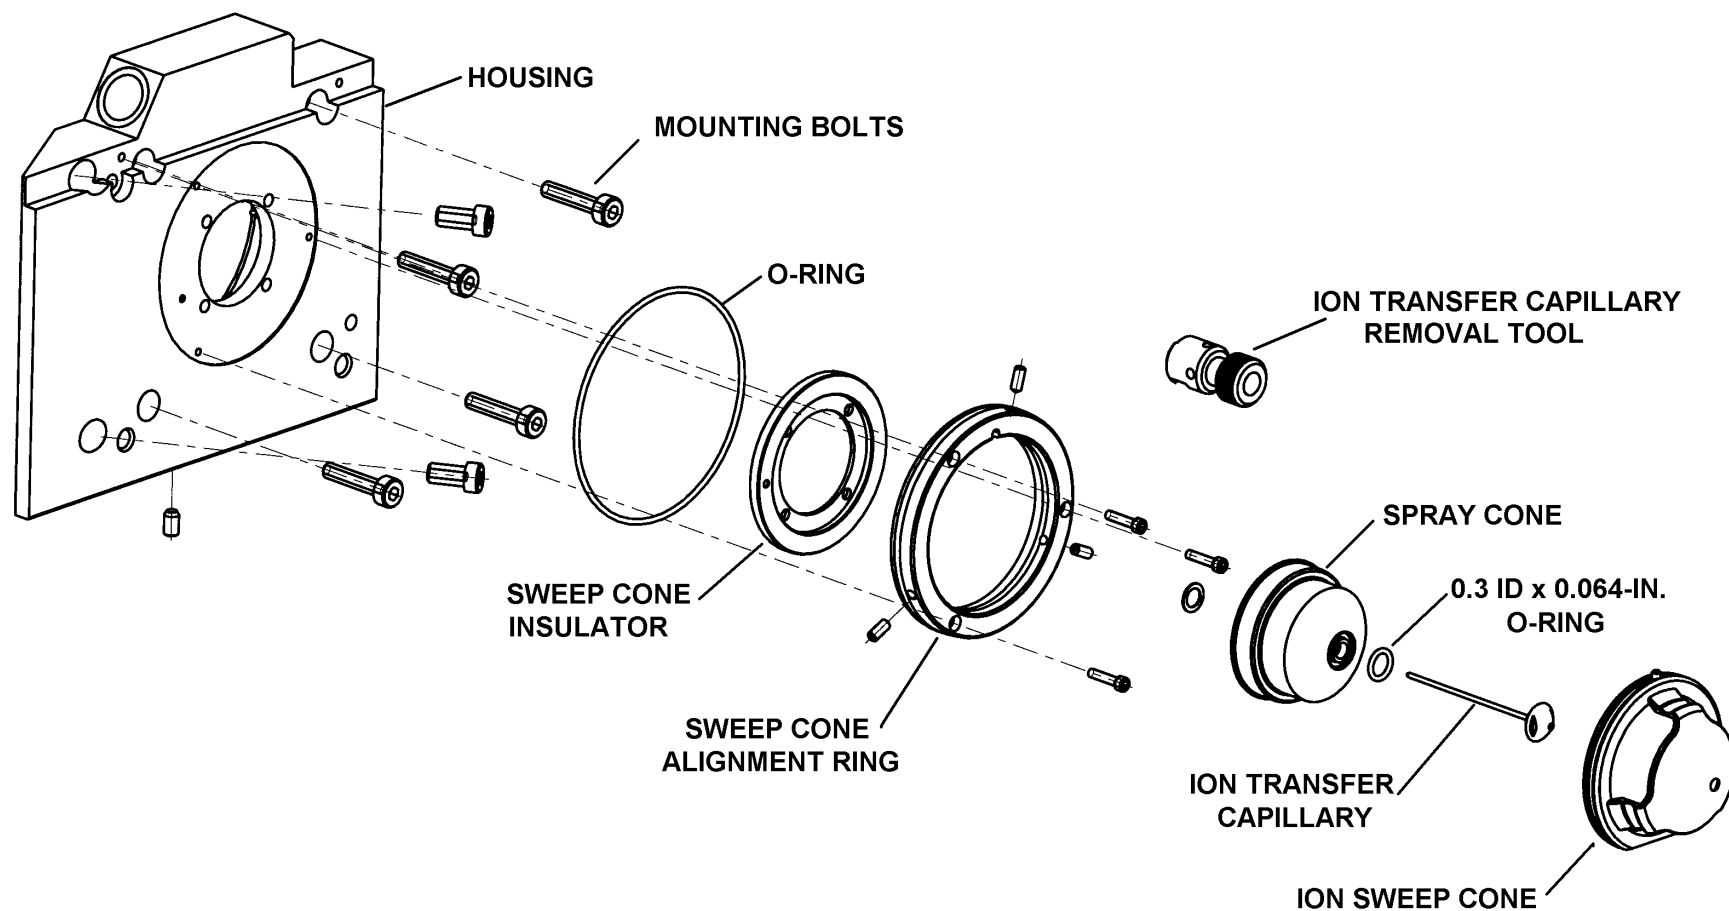
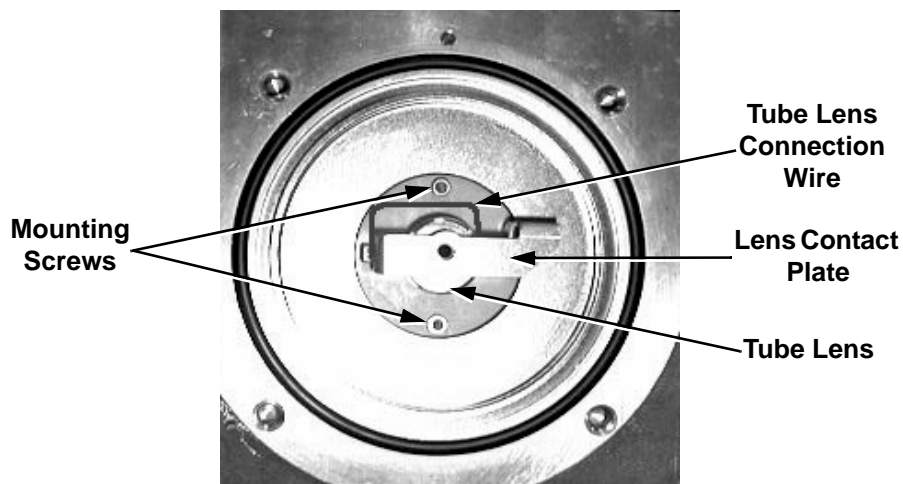
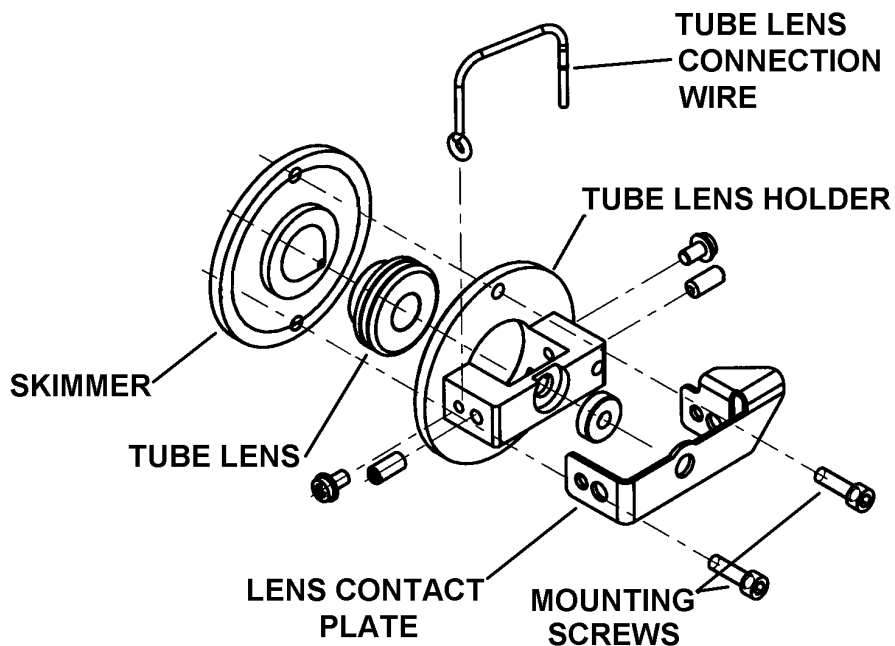
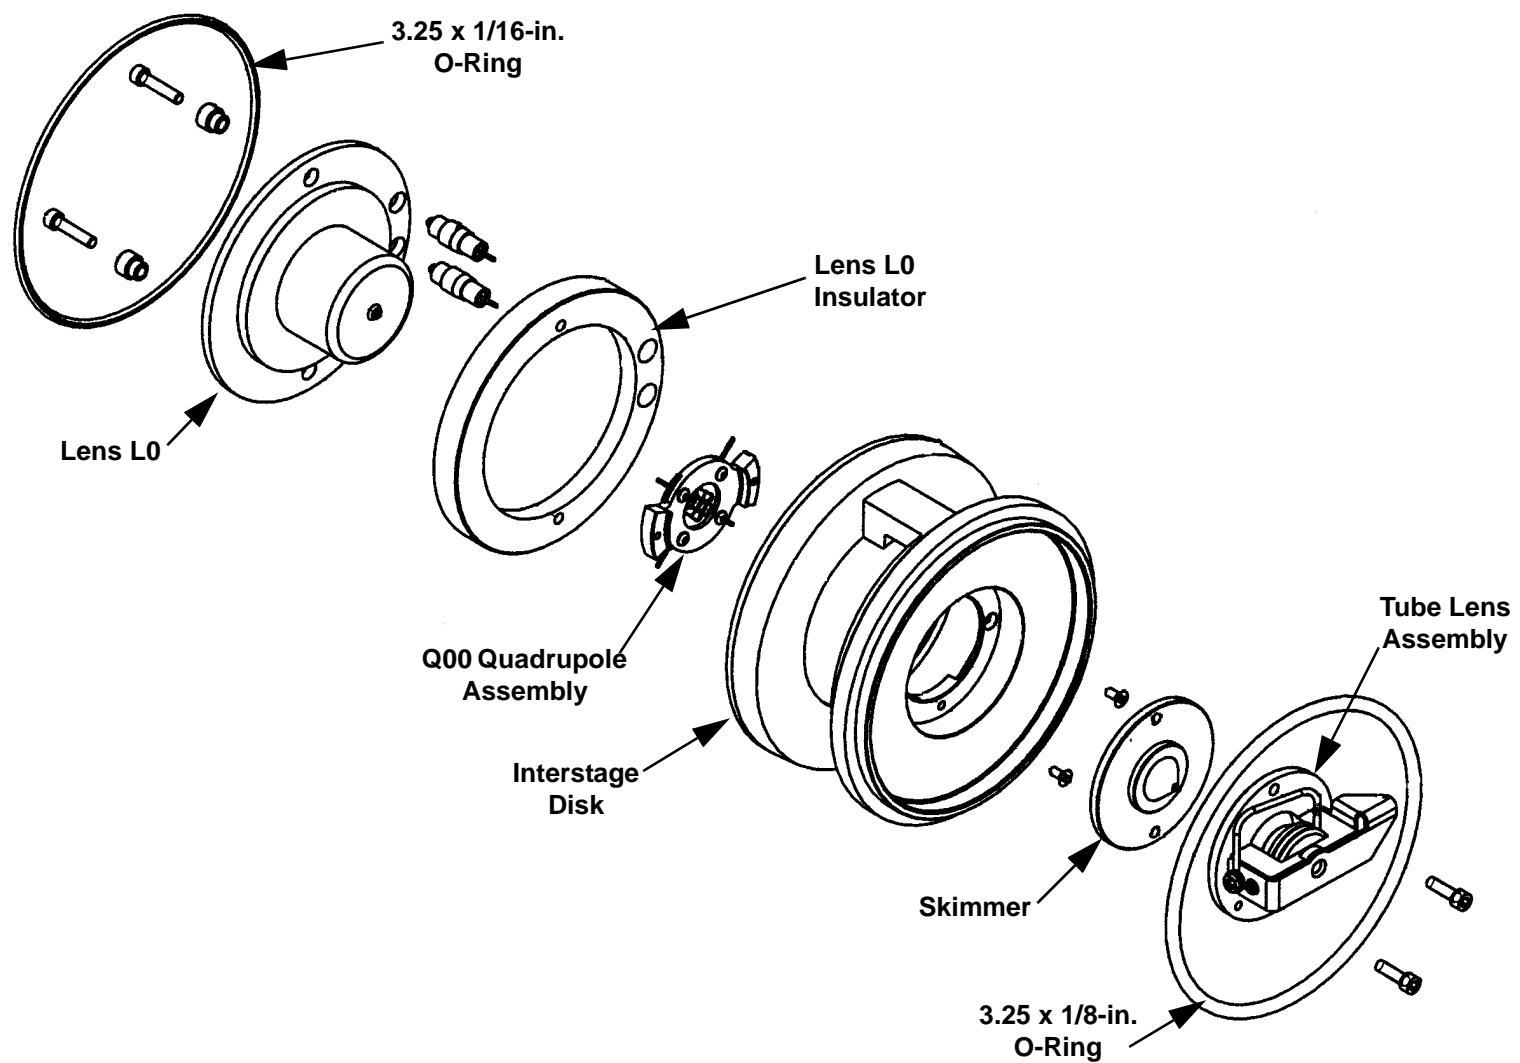

Figure 5-13. Exploded view of the ion source interface
Figure 5-16. Tube lens assembly
Figure 5-17. Exploded view of the tube lens assembly
Figure 5-18. Exploded view of the Q00 ion guide
To replace other ion source interface component, refer to the exploded diagrams shown in Figure 5-13 and Figure 5-16.
1. Remove the tube lens assembly and skimmer from the Q00 ion guide by loosening the two mounting screws and then pulling the assembly free from the ion guide. See Figure 5-16 and Figure 5-17.
2. Gently pull on the lens contact plate (Figure 5-16) to break the O-ring seal. Pull the Q00 ion guide out of the vacuum manifold and place it on a clean surface.
To disassemble the Q00 ion guide, proceed as follows. See Figure 5-18 and Figure 5-17 for the location of the Q00 ion guide components.
1. Remove the tube lens assembly and skimmer from the Q00 ion guide by loosening the two mounting screws (Figure 5-16) and then pulling the assembly free from the ion guide.